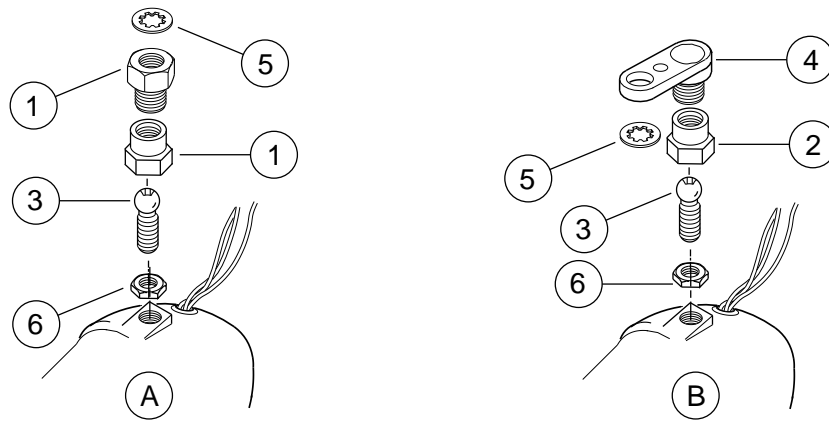

Figure 1. Install Front Swivels and Turn Signals
2. See Figure 1. Assemble ball receptacle (4) onto end of rear view mirror using lockwashers (5) placed below receptacle, and original acorn nut. A dimple on the ball receptacle will fit over a small bump on the underside of the clutch lever housing when the receptacle is properly aligned.
3. Place ball stud (3) through ball stud clamp (2) and thread on jamnut (6). Screw ball stud assembly into left side lamp housing. Tighten jamnut against lamp housing.